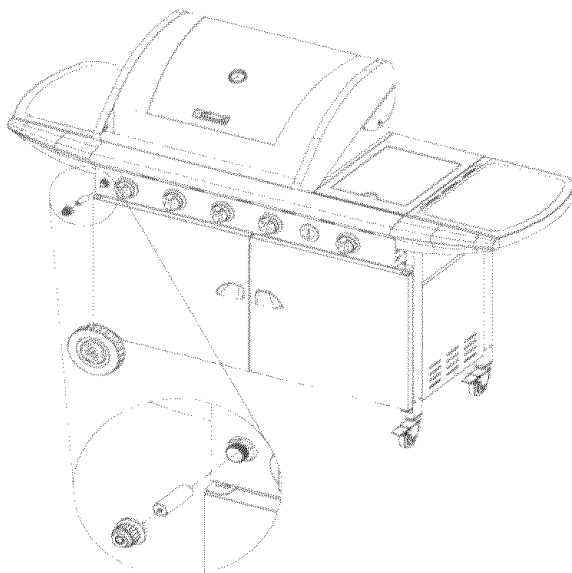

Figure 17
3. Replace the ignition battery cap after the battery has been installed. (Fig 17)